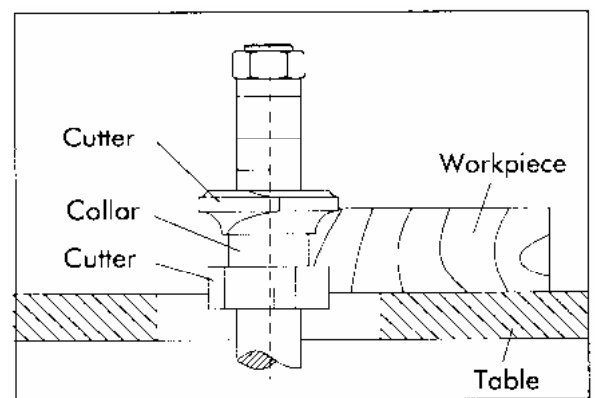

Fig. 4.8
3. Using the collar between two cutters has the advantages and disadvantages of the first two procedures, and is frequently used where both edges of the work are to be molded, see Fig.4.8.